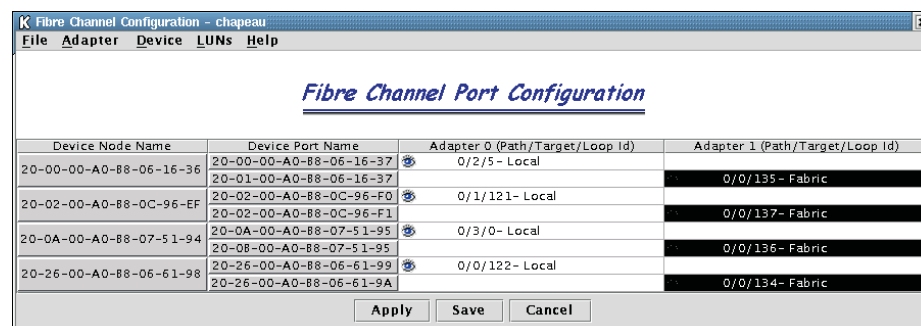

Figure 149. Fibre Channel Port Configuration window
5. Select CONFIGURE. You will then be presented with the Fibre Channel Port Configuration dialog (see Figure 149).